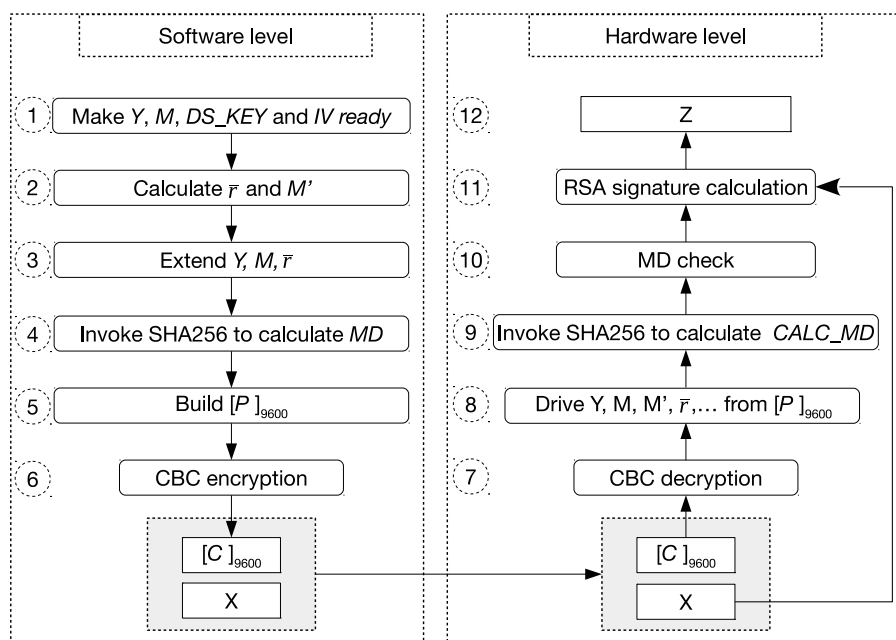

Figure 22.3-1. Software Preparations and Hardware Working Process
1. The software preparation (left side in the Figure 22.3-1) is a one-time operation before any signature is calculated, while the hardware calculation (right side in the Figure 22.3-1) repeats for every signature calculation.
You need to follow the steps shown in the left part of Figure 22.3-1 to calculate C . Detailed instructions are as follows:
1. **Decryption: Step 7 and 8 in Figure 22.3-1**
The decryption process is the inverse of Step 6 in figure 22.3-1. The DS module will call AES accelerator to decrypt C in CBC block mode and get the resulted plaintext. The decryption process can be represented by $P = \text{AES-CBC-DEC}(C, DS_KEY, IV)$, where IV (i.e., $[IV]_{128}$) is defined by you.
2. **Check: Step 9 and 10 in Figure 22.3-1**
The DS module will perform two checks: MD check and padding check. Padding check is not shown in Figure 22.3-1, as it happens at the same time with MD check.
3. **Calculation: Step 11 and 12 in Figure 22.3-1**